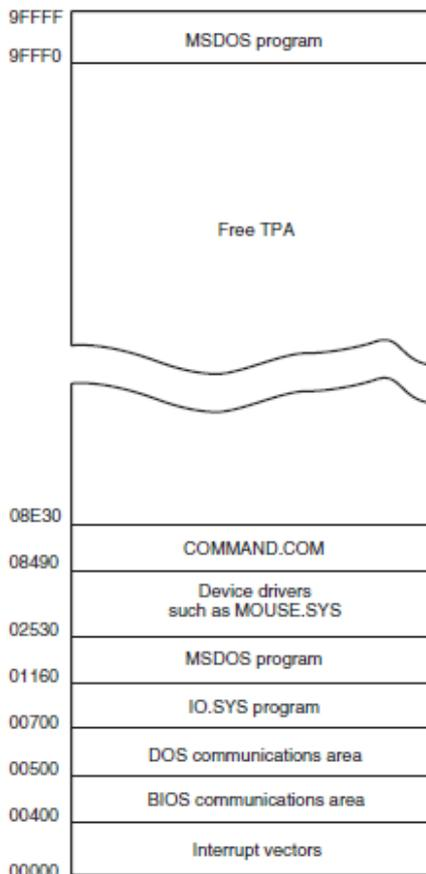

Figure 1-8:The memory map of the TPA in a PC
- Length of TPA = 640KB (Fig: 1-8).